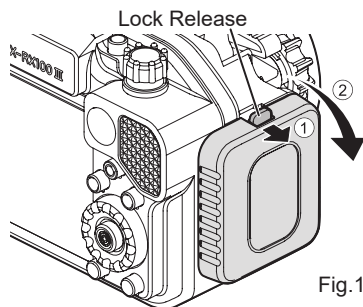

Fig.1
- 1 **Push the Lock Release outward to unlock as indicated by ①, and rotate the lock knob clockwise as indicated by ② to lift the rear cover from the front case (Fig. 1)**